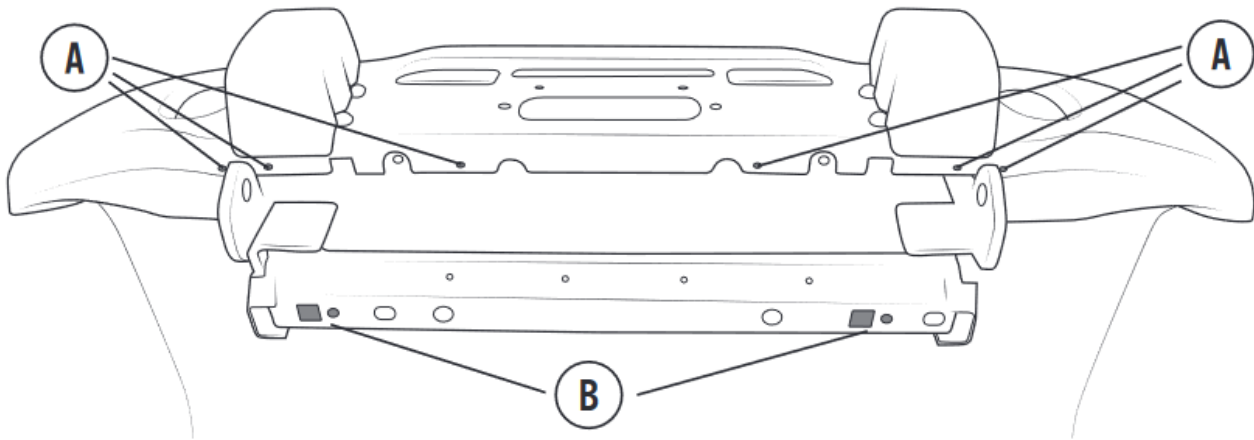

Figure 1
1. Install the six M8 U-nuts onto the Bumper edge (Fig 1) aligning with the six holes in the Bumper
3. Install the two M10 U-nuts into the square cut-outs on the compatibility beam (Fig 1-B), aligning with the adjacent round holes. If the square cut-outs are not present on your vehicle you may skip this step. Continue to step #8